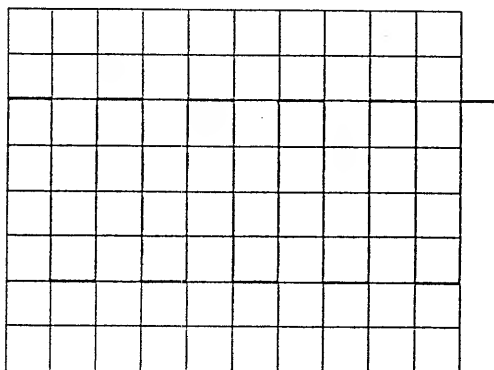

Figure 4-3
- 5) Set the AC-GND-DC switch in the AC state. A waveform as shown in Figure 4-3 will be displayed on the CRT screen.
When the calibration voltage signal is applied to the input terminals of both X and Y axis with the PO60-S 10:1 Probes (supplied) and the corresponding VOLTS/DIV switches are properly adjusted, a Lissajous figure as shown in Figure 4-3 will be displayed.